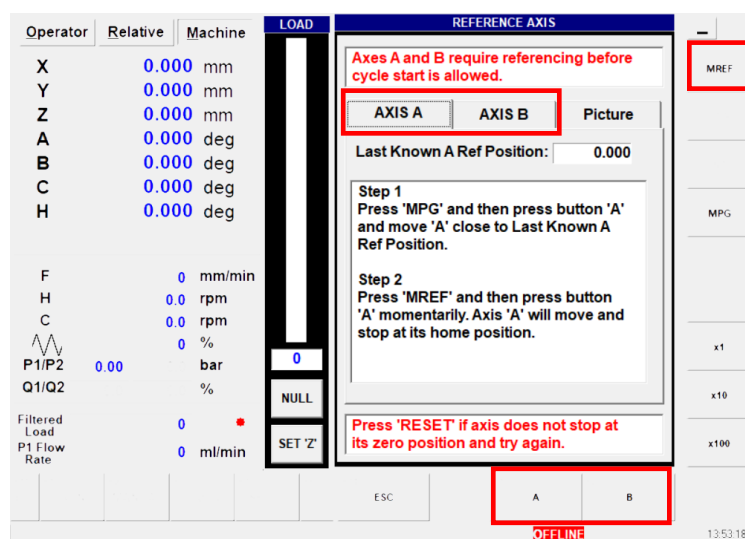

Figure 16 - Reference axis A
5. When complete and the MACHINE POSITION displays 0.000 mm for the A axis, now perform the same operation for the B Axis. See (Figure 16 - Reference axis A).